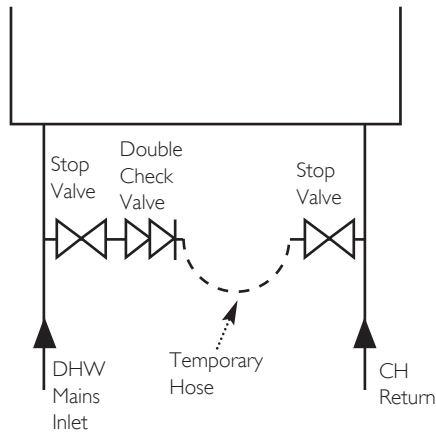

Fig. 4
6.5 System Filling and Pressurising (Fig. 4)